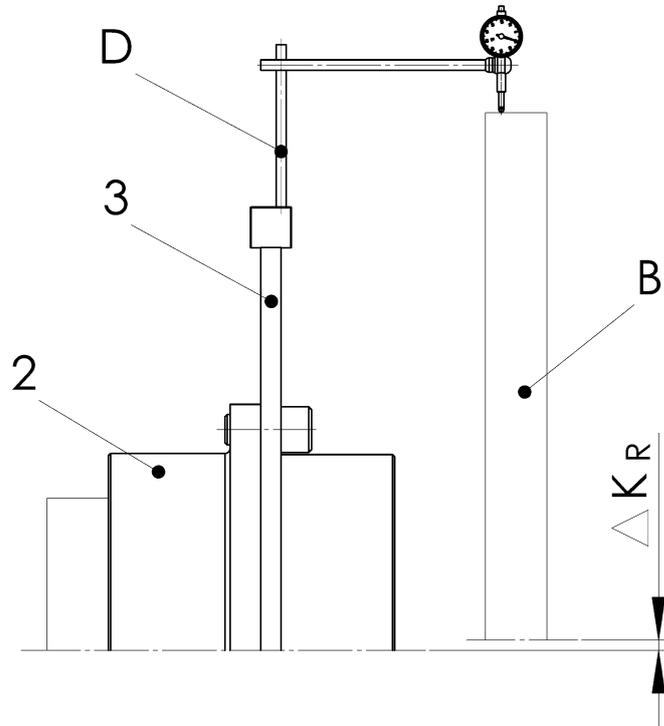

Fig. 5-2 Radial misalignment
- Measure the radial misalignment with a dial gauge (see Fig. 5-2).
- Attach the dial gauge (D) to the adapter (3).
- Set the sensor of the dial gauge (D) radially against the flywheel (B).
- Turn the adapter (3) with the dial gauge (D) and the flywheel (B) slowly by 360°.